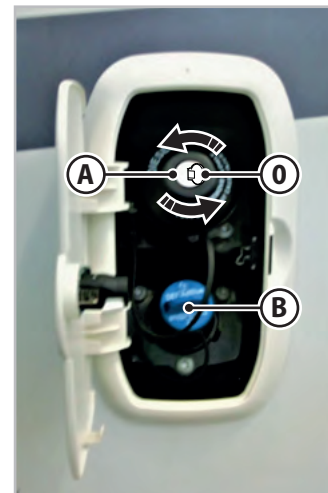

Fig.5.7 - Fuel cap
To open the fuel cap (Fig.5.7):
To close the fuel cap (Fig.5.7):
To open the AD-BLUE additive cap (**B** - Fig. 5.7), turn the cap anticlockwise and remove it. Proceed with the refueling. Perform the same operation in reverse in order to close it.
1. Pull lever **A** (Fig 5.7 and 5.8, varies according to vehicle type) in the direction of the arrow; the lever is located on the left of the steering column.